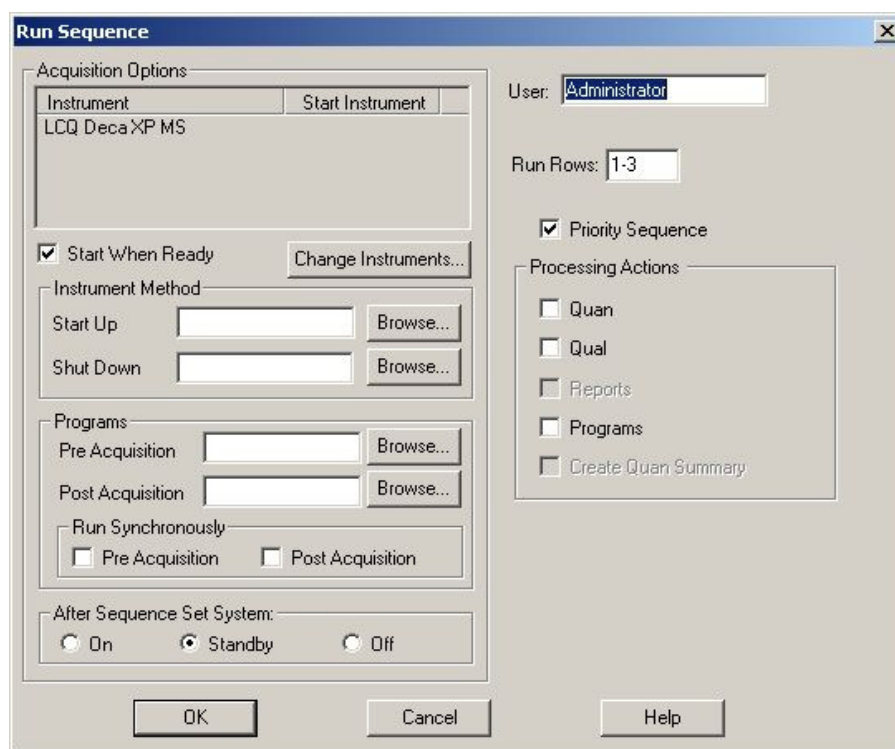

Figure 7.31 Starting the Sequence Run
7. Create Xcalibur Sequence or open an Xcalibur Sequence file (see the ThermoXcalibur Software Manual for specific details). The number of samples in the sequence setup window table (see Fig. 7.31) should correspond to the total number of samples selected for the analysis.
8. Go to the Actions/Run Sequence menu to open the run sequence dialog window (see Figure 7.31 below).